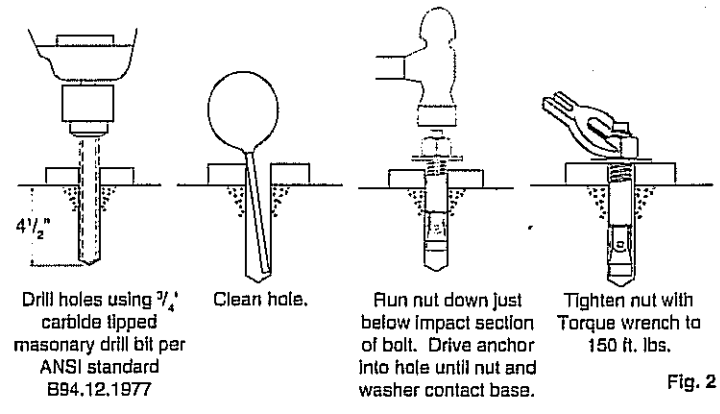

Fig. 2
- Using shims provided, shim each column base until each column is plumbed properly using a 36" or longer carpenters level. Plumb the columns first front and rear, then, side-to-side. Maximum shim thickness is 1/2", Fig. 3. Recheck column for plumb. Reshim if necessary. Torque anchor bolts per Fig. 2. If anchors do not hold, concrete must be